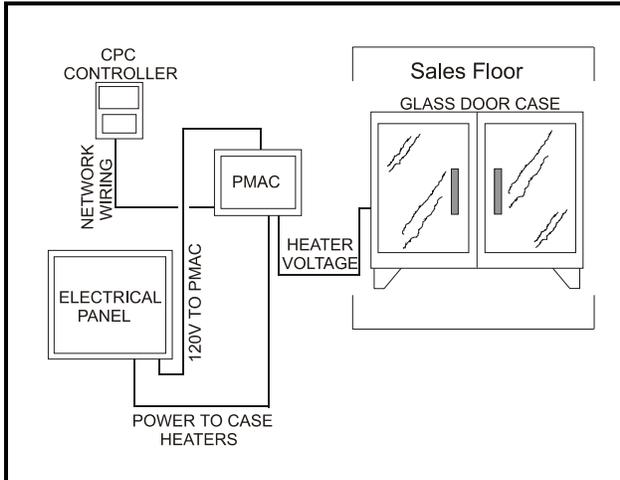

Figure 1-3 - Typical Layout
2. Provide 120 VAC (15 amp circuit) to the PMAC II Solo panel through a store circuit breaker. See the layout design in *Figure 1-3*.